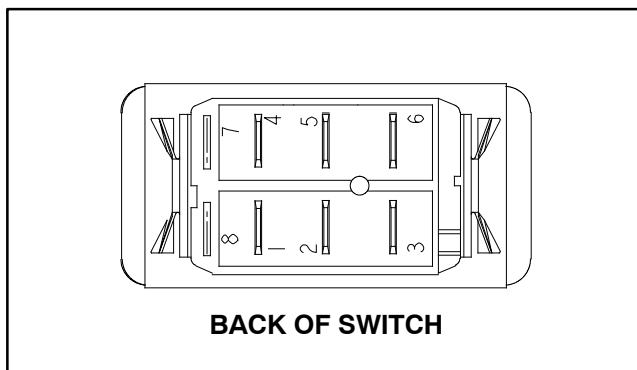

Figure 53
5. The switch terminals are marked as shown in Figure 53. The circuit logic of the flasher switch is shown in the chart below. With the use of a multimeter (ohms setting), the switch functions may be tested to determine whether continuity exists between the various terminals for each position. Verify continuity between switch terminals. Replace flasher switch if testing identifies a faulty switch.